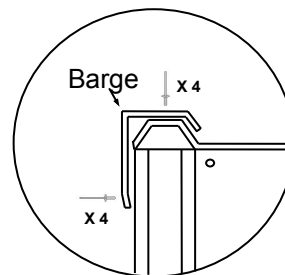

fig.3
- Position the first Roof Sheet so that the top of the sheet is at the centre of the Ridge Beam and the side of the sheet over hangs the end of the Ridge Beam (fig .3). Using 1 x 50mm Clout, predrill and nail through the rib into the top corner. Repeat above and nail the lower corner ensuring 15mm overhang.
- *Rivet the Barge Flashings to the roof and the side wall, using four rivets on top of barge and four into the side (**fig.3**).*